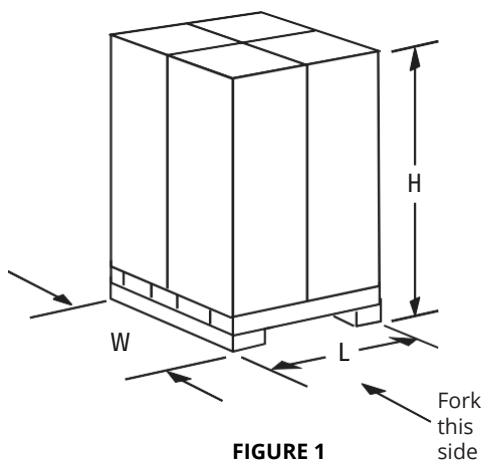

FIGURE 1
1. Upright in carton 4 per pallet, see figure 1.
2. Upright inside cabinet (risers shipped separate or customer supplied) 4 per pallet, see figure 1.
### Cabinet without risers attached can ship upright 4 per pallet, see figure 1.